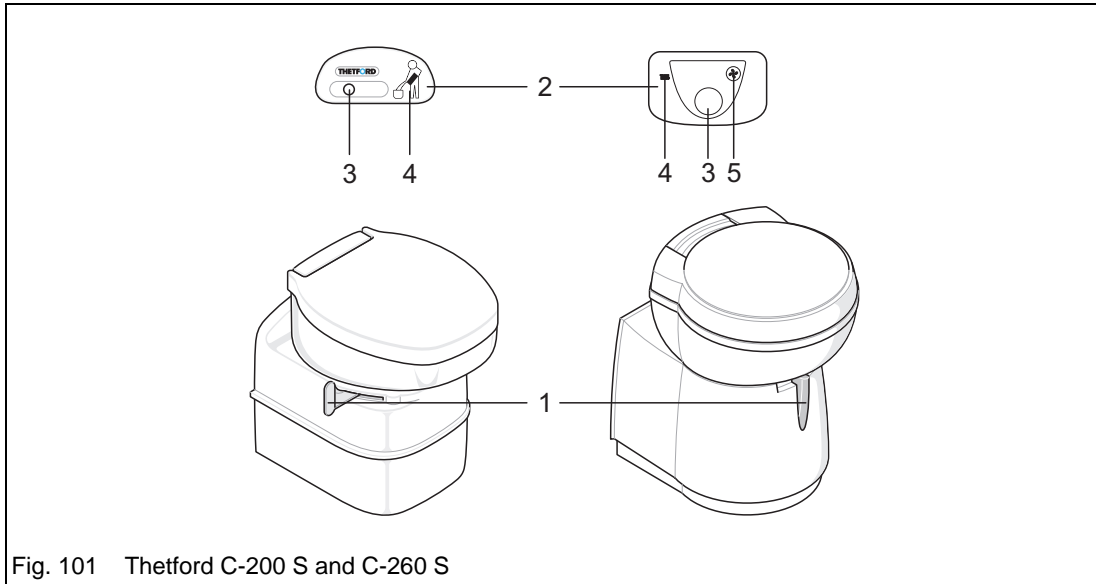
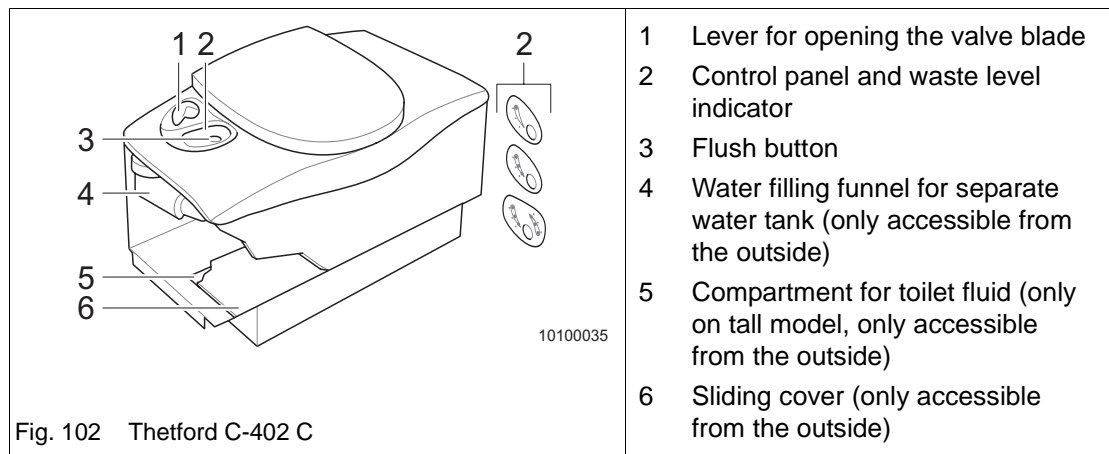

Fig. 101 Thetford C-200 S and C-260 S
Fig. 102 Thetford C-402 C
- ➔ Before flushing, use the lever (Fig. 101/1) to open the valve blade.
- ➔ To activate the control panel, press the flush button (Fig. 101/3) once.
- ➔ Push the lever (Fig. 101/1) to the side if the valve blade is still closed.
- ➔ Flush the toilet (Fig. 101/3) by pressing the flush button for several seconds (if necessary, reactivate the control panel (Fig. 101/2).
- ➔ Close the valve blade with the lever (Fig. 101/1) after flushing.
- ➔ Before flushing, use the lever (Fig. 102/1) to open the valve blade anticlockwise.
- ➔ Press the flush button (Fig. 102/3) once to run some water into the bowl.
- ➔ If the valve blade is still closed, use the lever (Fig. 102/1) to open the valve blade anticlockwise.
- ➔ Press the flush button (Fig. 102/3) for several seconds to flush.
- ➔ Close the valve blade with the lever (Fig. 102/1) after flushing.
The cassette (Fig. 105/1) has a capacity of approx. 17 l and should be emptied when the level indicator (Fig. 101/4) lights. Do not allow the cassette to become overfilled.
The cassette (Fig. 106/1) has a capacity of 18 l and should be emptied when the level indicator (Fig. 101/4) lights. Do not allow the cassette to become overfilled.
The cassette has a capacity of approx. 19 l and should be emptied when the level indicator (Fig. 102/2) or (Fig. 104/2) lights. Do not allow the cassette to become overfilled.
- Close the valve blade (Fig. 101/1), (Fig. 102/1), (Fig. 104/1) in the toilet.